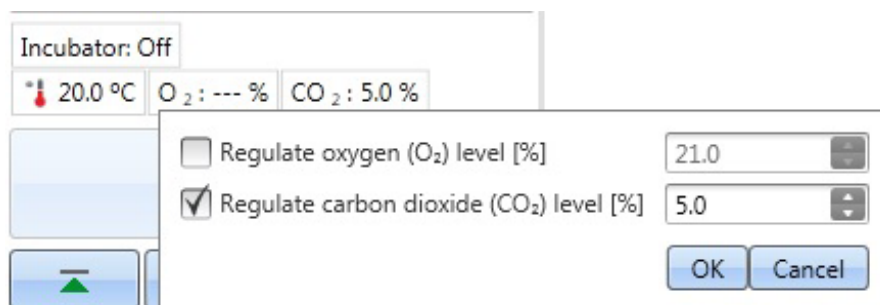

Figure 5–45 The gas atmosphere pop-up window
- a. Click the gas atmosphere icon above the **Start** button to open the pop-up window (Figure 5–45).